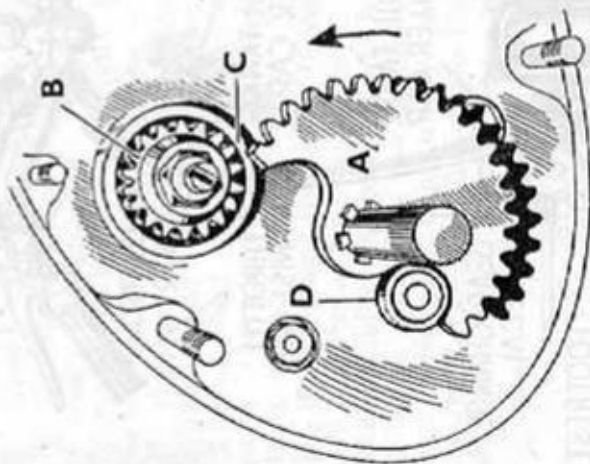

FIG. 3. THE KICK-STARTER MECHANISM
Be Careful With Kick-starter. It is very important not to exert excessive force on the kick-starter pedal (see Fig. 3) until the toothed quadrant (A) has moved in the direction of the arrow sufficiently to bridge the gap (C) between the quadrant and the kick-starter ratchet pinion (B).